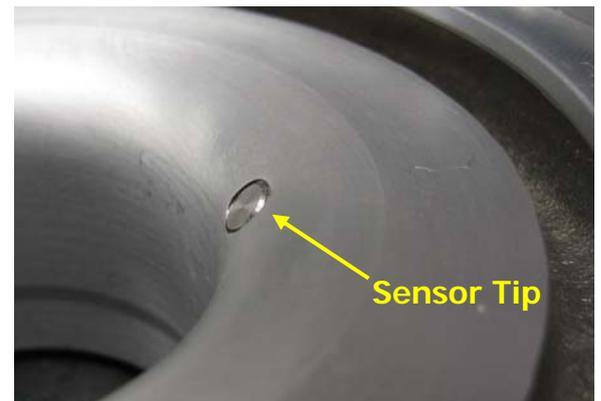

Fig. 5
**IMPORTANT:** Make sure the **tip** of the sensor is approximately flush with the inside contour of the housing. (see figure 5). Tighten the M4 spacer screw once the sensor has been installed in the housing.